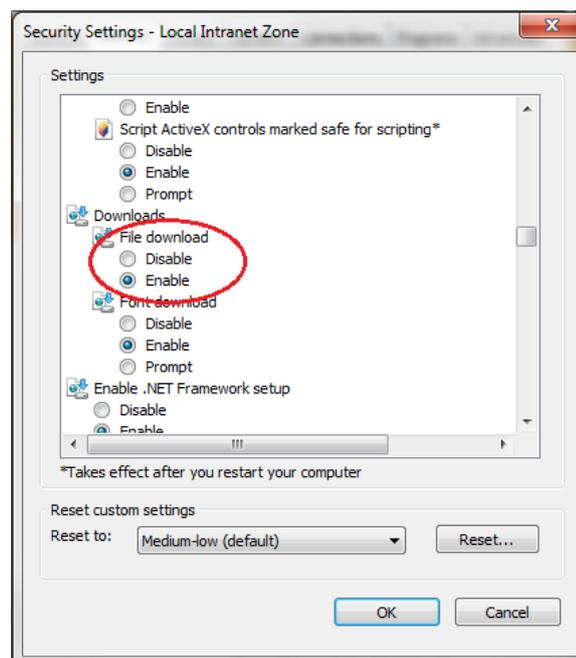

Figure 3-30 Enable file downloads
- 4) Set to enable **File Download**, as shown in the Figure 3-30.